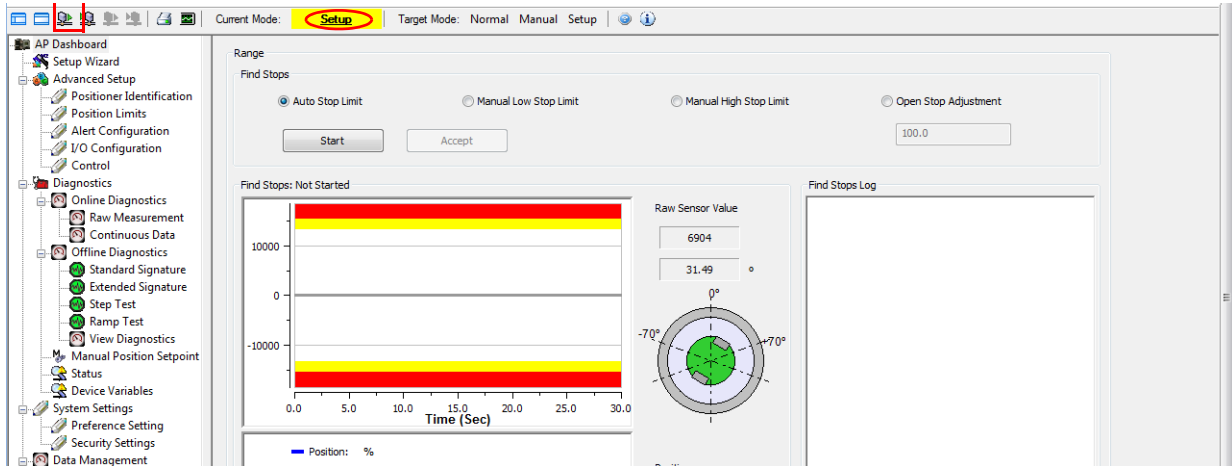

Figure 7 Connected
13. Check that the SVI II AP is connected (see red oval in Figure 7).
14. Click **Upload All Parameters** icon (see red box in Figure 7).